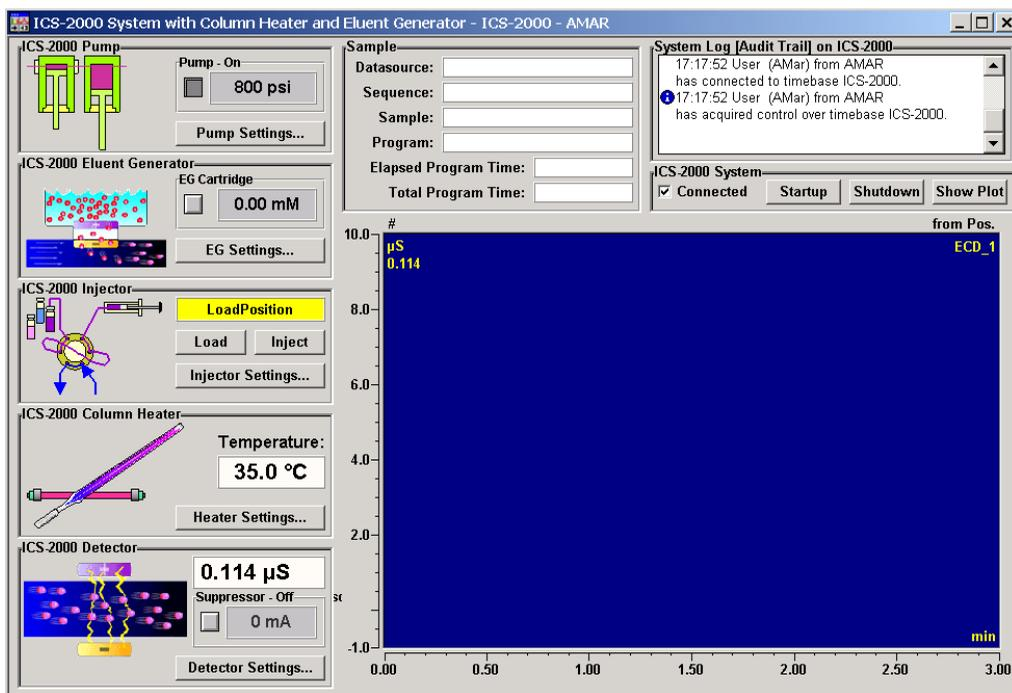

Figure B-56. ICS-2000 System Control Panel Example
19. Double-click the .pan file to open the Control Panel for your system (see the example in Figure B-56).